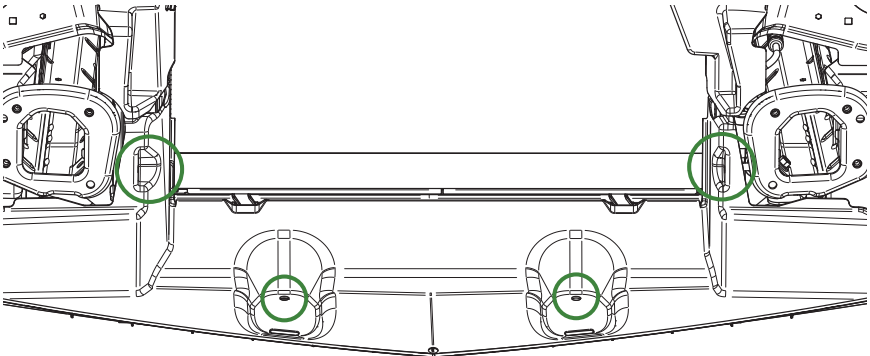

Figure 6 - Removing the Lower Radiator Shroud
2. Remove the lower radiator shroud from the car by releasing the four pop-clips, circled **green** in Figure 6.